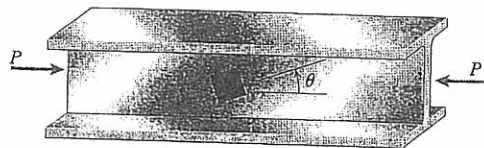

Figure 3a
3. (a) A compression member in a bridge truss is fabricated from a wide-flange steel section (see figure 3a). The cross-sectional area $A = 6640\text{ mm}^2$ and the axial load $P = 140\text{ kN}$. (10%) Determine the normal and shear stresses acting on all faces of stress elements located in the web of the beam and oriented at (i) an angle $\theta = 0^\circ$, (ii) an angle $\theta = 22.5^\circ$ and (iii) an angle $\theta = 45^\circ$. In each case, show the stresses on a sketch of a properly oriented element.